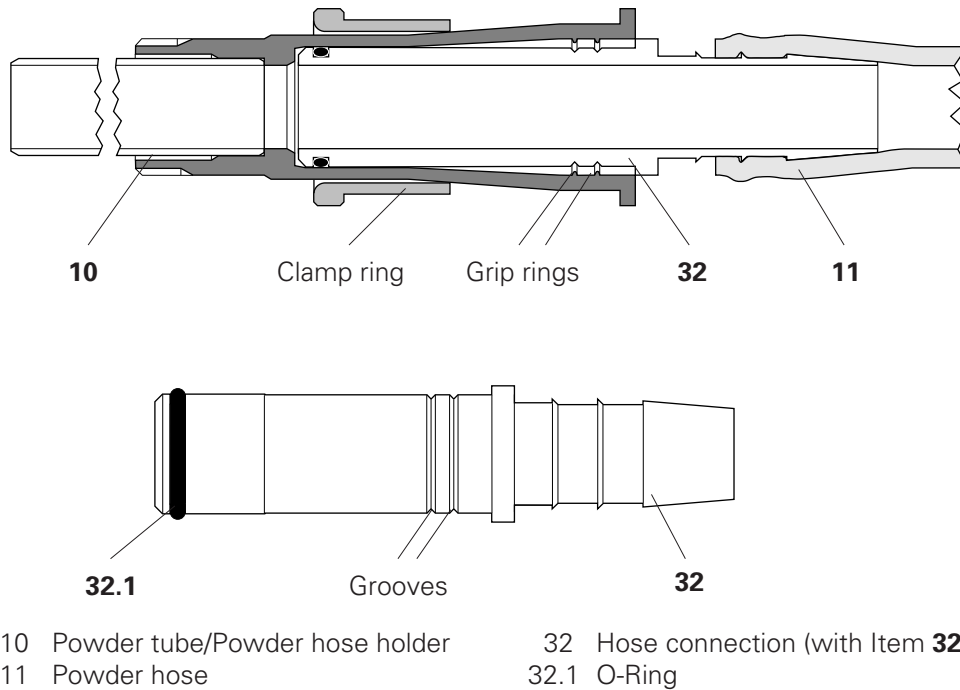

Figure 13
2. Detach the powder hose connection (**32** - Fig. 13, page 15) at the powder hose connector (**10** - Fig. 10, page 12).
### Powder hose connection (See Fig. 13, page 15)